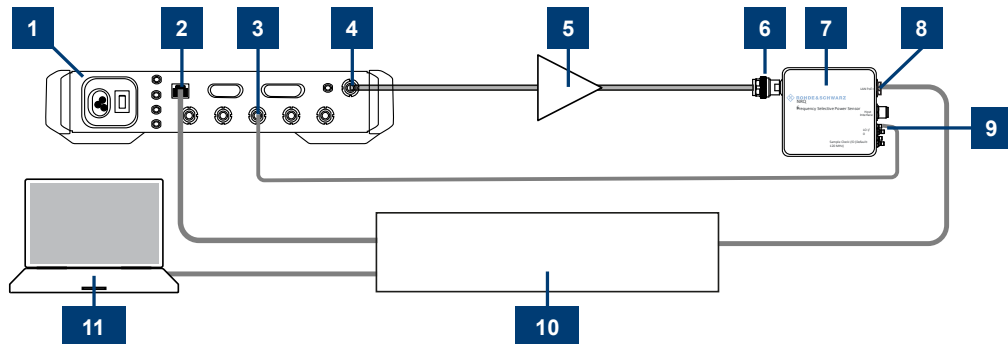

Figure 6-28: Test setup
In Figure 6-28, the test setup also comprises an optional spectrum analyzer and a power splitter for additional power measurements. For more information, see the application sheet.
1. Connect the instruments as in Figure 6-28.